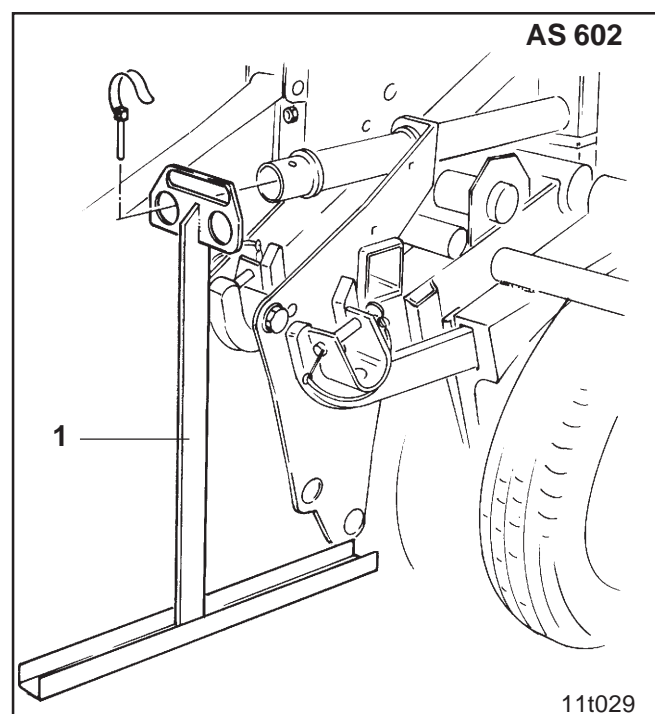

Fig 5.9
- Inner supporting leg (Fig. 5.9/1) for AS 602.